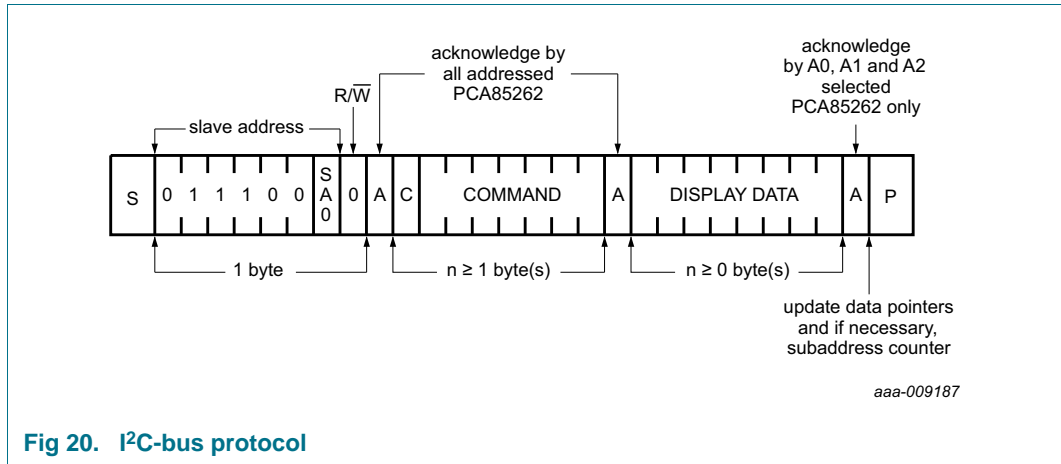

Fig 20. I2C-bus protocol
The I2C-bus protocol is shown in Figure 20. The sequence is initiated with a START condition (S) from the I2C-bus master which is followed by one of the two possible PCA85262 slave addresses available. All PCA85262 whose SA0 inputs correspond to bit 0 of the slave address respond by asserting an acknowledge in parallel. This I2C-bus transfer is ignored by all PCA85262 whose SA0 inputs are set to the alternative level.